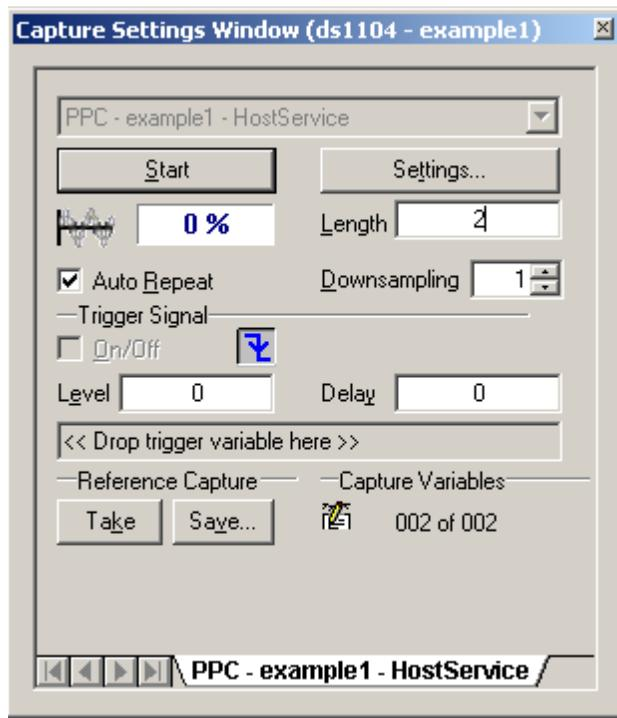

Figure 2.16: Capture Setting Window
8. Open the Capture Settings Window and set the Length of the simulation as 2, while leaving unchanged the Downsampling number. Your capture settings should look like as shown in Fig. 2.16. For more complex systems this number has to be increased when the Length is larger than 20 times the sampling time.